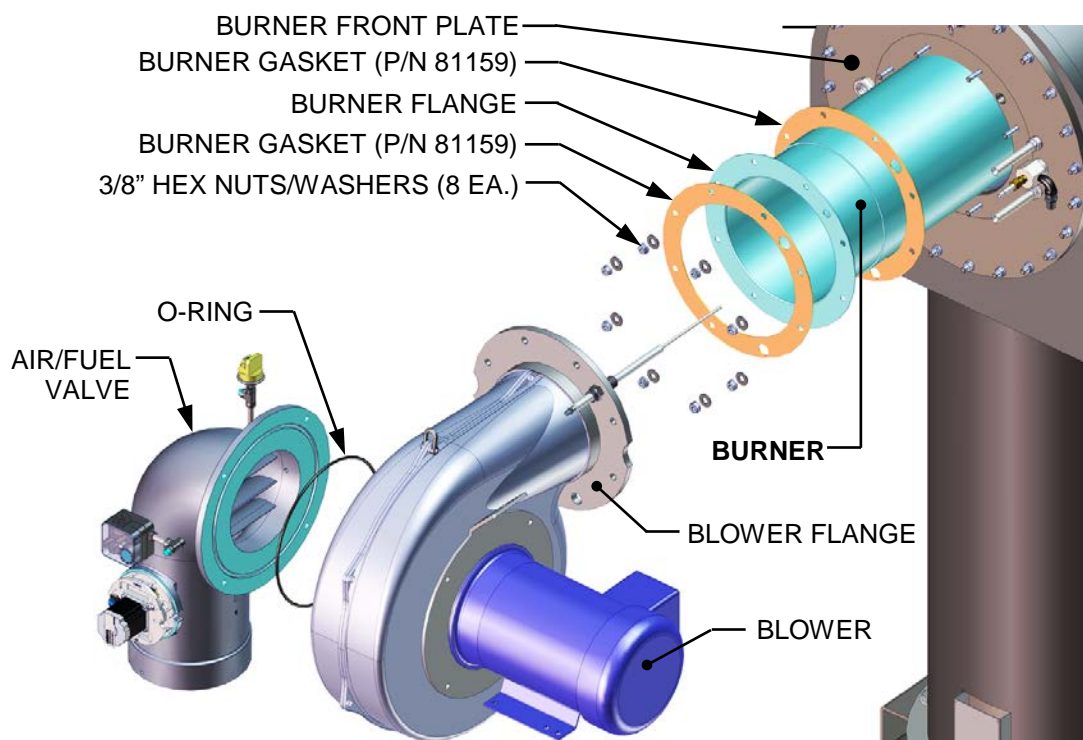

Figure 7-5: Burner Assembly – Exploded View
14. Remove the Blower from the Burner by pulling outward. Be careful not to allow it to swing and damage other equipment components. Refer to the exploded view in Figure 7-5.
18. Remove and replace the two (2) Burner Gaskets (see Figure 7-5).
19. To reassemble, begin with the Burner assembly and reinstall all the components in the reverse order that they were removed. The Burner may have a nut installed at the base position to keep the Burner level while installing the Blower (Figure 7-5).